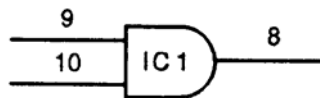

Figure Q-7. AND Gate
(2) In a schematic where all the gates may not be located in the same place, there will be individual gate symbols drawn with the IC number and pin numbers labeled as in Figure Q-7.